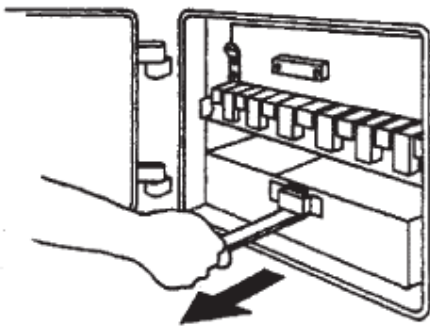

Fig. 9
- e) Remove ashpan, empty and replace (Fig. 9).
- e) Remove ashpan and empty (Fig. 9).
Open the ashpit door to give access to the ashpan which must be emptied regularly (See Fig. 9).